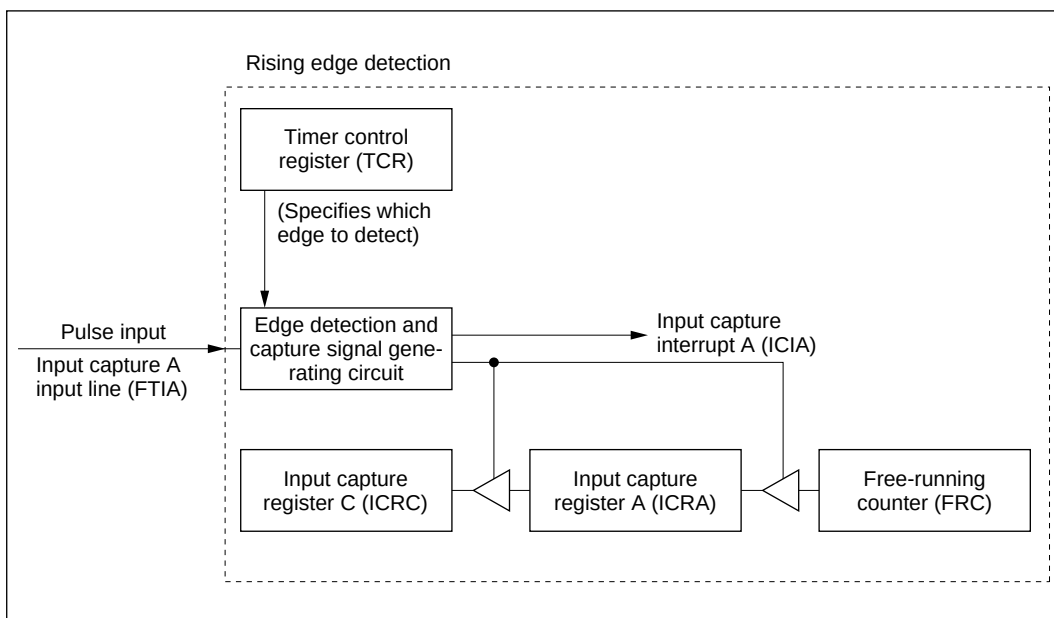

Figure 2 16-Bit Free-Running Timer Block Diagram
1. Figure 2 shows a block diagram of the 16-bit free-running timer used by this sample task. The 16-bit free-running timer has the following functions:
This sample task uses these functions as shown in figure 2 to measure pulse cycle length.